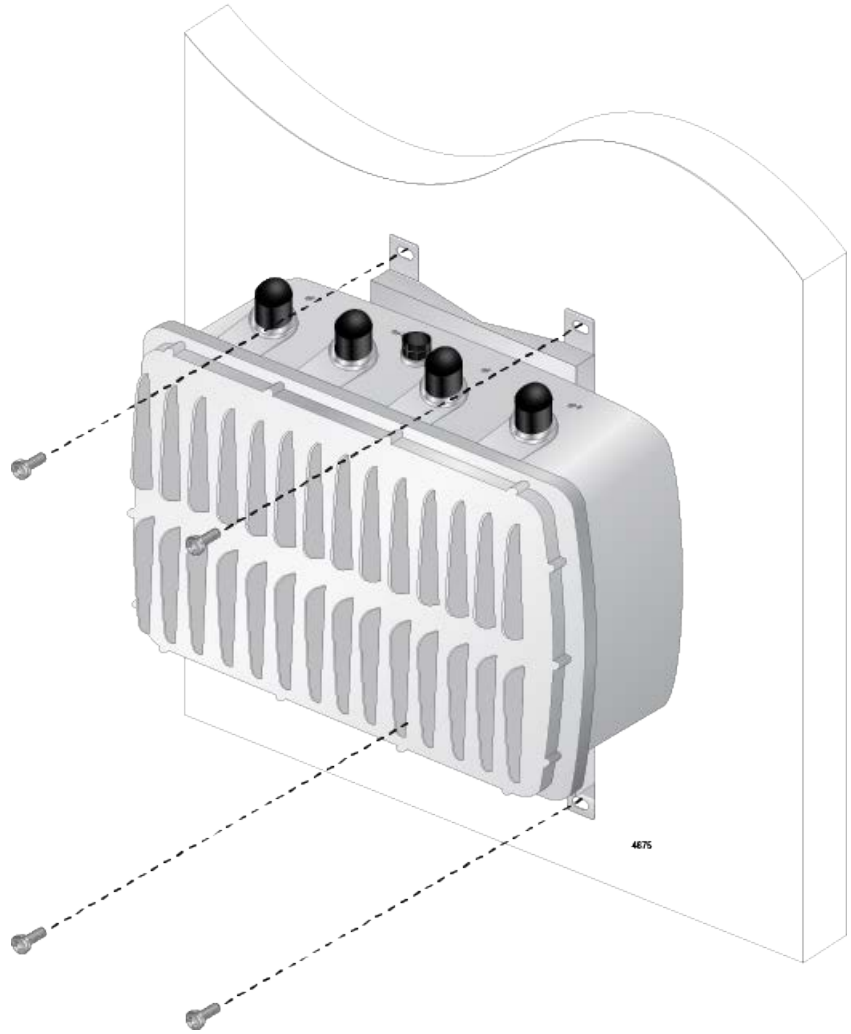

Figure 29. Attaching the Access Point to the Wall
7. Attach the access point to the wall with the provided screws, using a Phillips-head screwdriver. See Figure 29 on page 59.